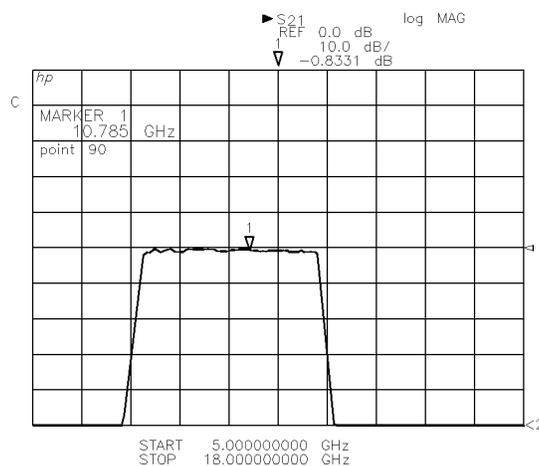

Figure 2-9. Insertion Loss:  $S_{21}$  LOG MAG
- b. Use the RPG knob to position the marker at any point on the trace. The measured Insertion Loss, magnitude value at the marker position, is displayed above the graticule. The frequency value is displayed in the active function area. See Figure 2-9 for an example of a typical display.